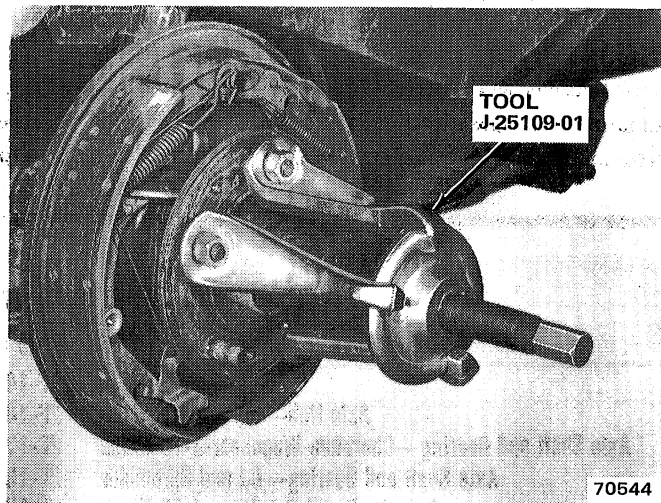

Fig. 2F-18 Axle Hub Removal—CJ and Scrambler Axle
- (1) Remove axle shaft dust cap.
- (2) Remove axle shaft nut and washer.
- (3) Raise and support vehicle.
- (4) Remove wheel and tire.
- (5) Remove screws attaching brake drum to rear hub and remove drum.
- (6) Install Puller Tool J-25109-01 on axle hub and remove hub (fig. 2F-18).